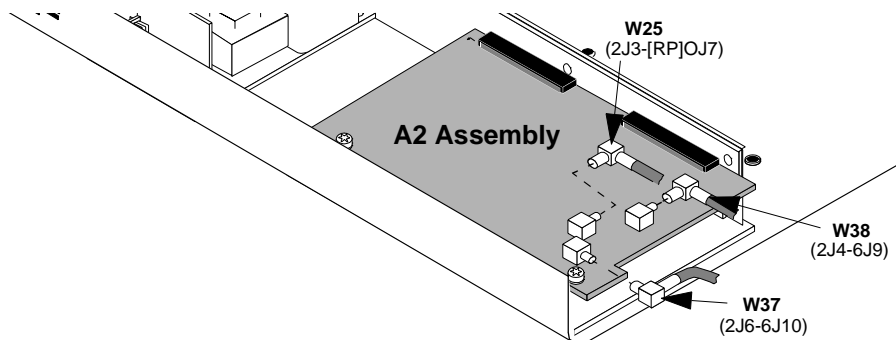

Figure 28 Removing A2 Assembly Connectors
3. Disconnect the SMB connectors W25, W37, and W38 from the A2 assembly, see figure 28.